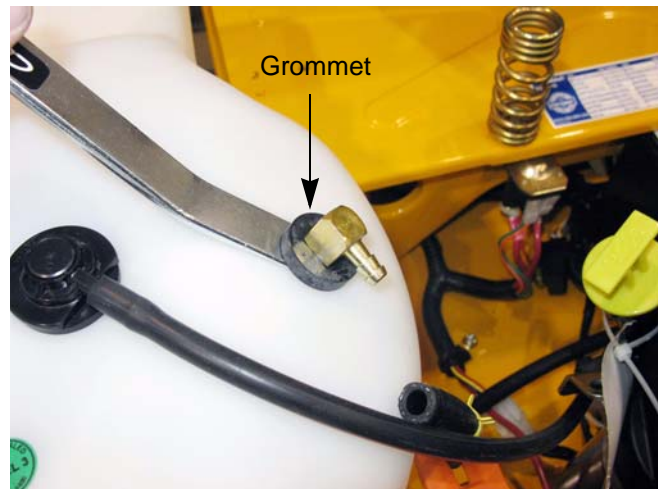

Figure 2.8
4. Gently pry the pick up tube and grommet out of the fuel tank. See Figure 2.8.